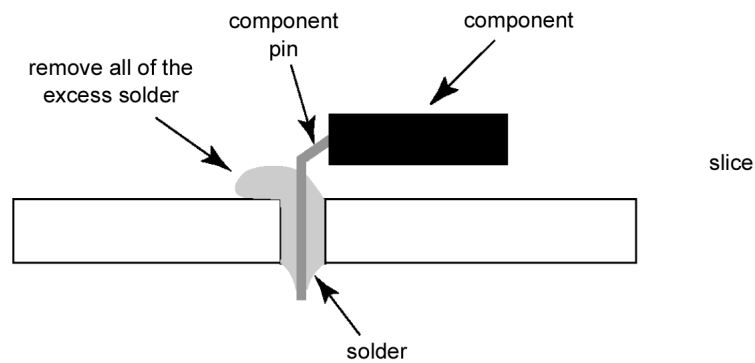

Figure 2
- After applying PbF to double layered boards, please check the component side for excess solder which may flow onto the opposite side (see Figure 2).